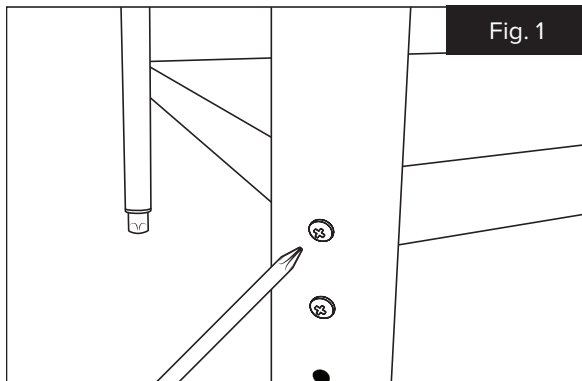

Fig. 1
1. Attach one leg (H) to the undershelf (B). Reinforce the shelf using an undershelf leg plate (I) and secure using two long Phillips screws (L). Repeat for all legs. (Figure 1)